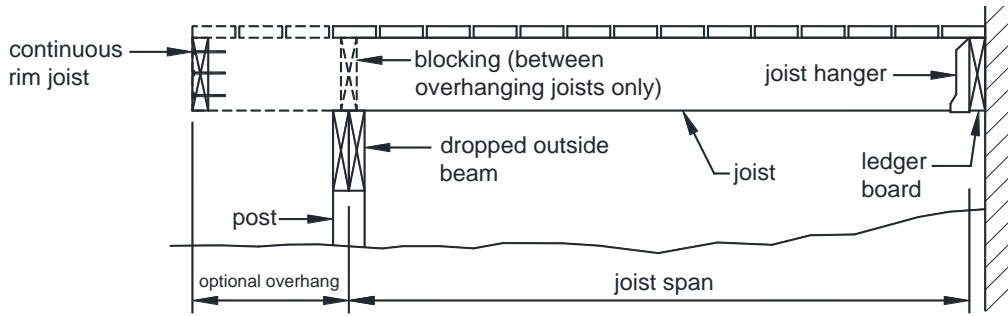
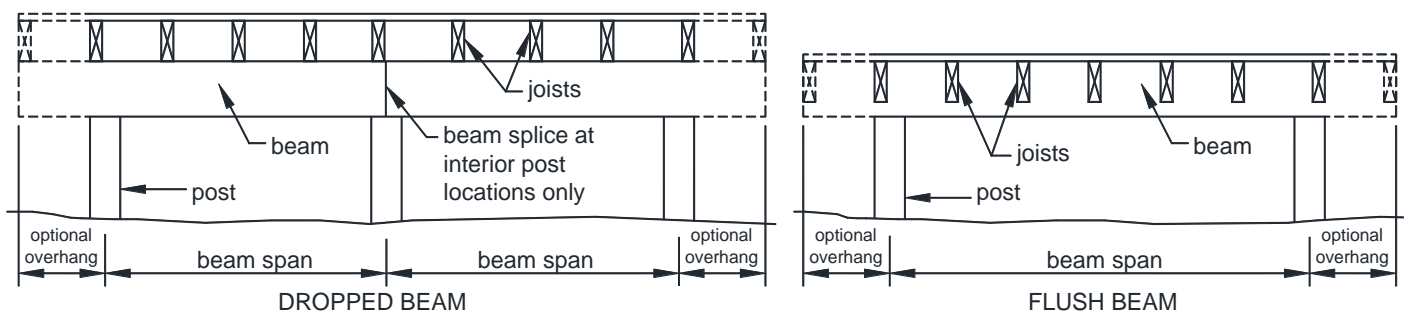

FIGURE 5: SINGLE SPAN DECK - JOISTS ATTACHED AT HOUSE WITH DROPPED BEAM
FIGURE 13: BEAM TYPES
- Single span decks are framed with joists that have one span between supports (not including overhang) as shown in FIGURES 5 and 6. Multi-span decks have joists with more than one span which bear on multiple beam as shown in FIGURES 7 and 8.
- Attach a continuous rim joist or blocking at the joist ends as shown in FIGURES 5, 7 and 9. Attach a rim joist to the end of each joist with (3)10d nails or (3)#10 by 3-inch wood screws.
- Dropped beams have joists bearing above; flush beams have joists with hangers bearing on its sides; see FIGURES 5 through 9 and FIGURE 13.
- Beam span length, as shown in FIGURE 13, is measured between the centerlines of two adjacent posts and does not include the beam overhangs.
- Beam plies are permitted to have splices. However, splices shall be located at inside posts connections as shown in FIGURE 13.